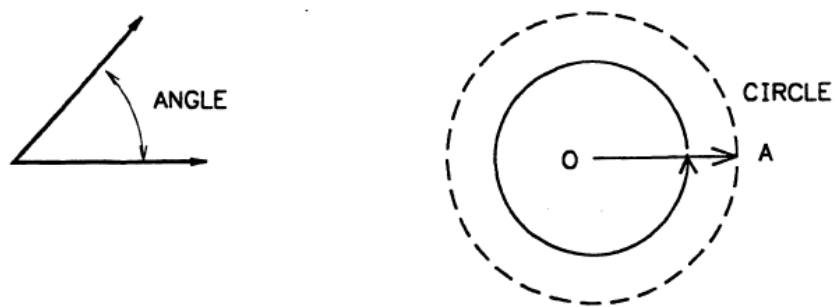

Figure 1 – Angle and Circle
10. It is customary to name a triangle by assigning letters to each of the angles, sides or angles. Upper case letters are usually used to name the angles, and the Greek Letters Phi (Φ) and Theta (Θ) are usually used to name the acute internal angles. The side of a triangle is named using the same letter as the angle opposite to it, but in lower case. The right triangle shown in Figure 1 has internal angles named A, B and C, sides named a, b, c, and the two internal acute angles are named Φ and Θ .